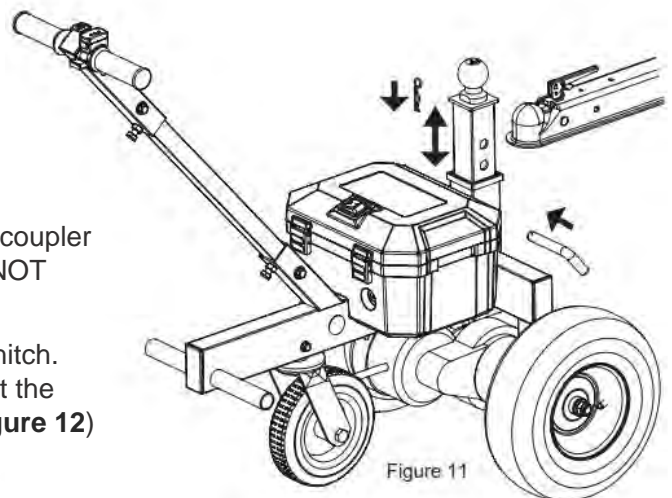

Figure 11
- Move the dolly close to the trailer, adjust the ball hitch mount to correct height. Normally leave the hitch ball 100-200mm over the weld spots, tighten the hitch ball mount with latch and pin. (See Figure 11)